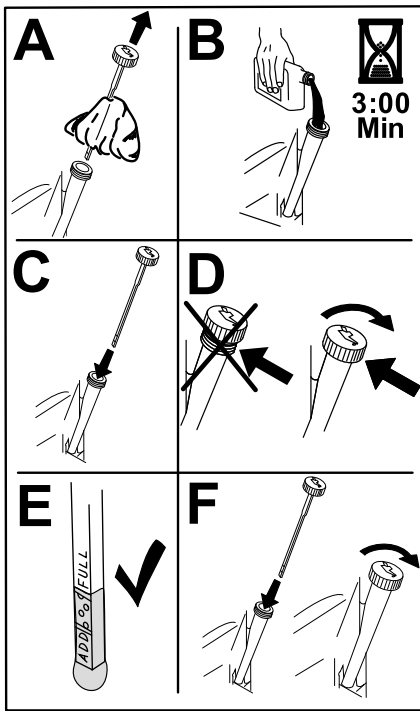

Figure 38
5. Slowly pour approximately 80% of the specified oil into the filler tube and slowly add the additional oil to bring it to the Full mark (Figure 38).